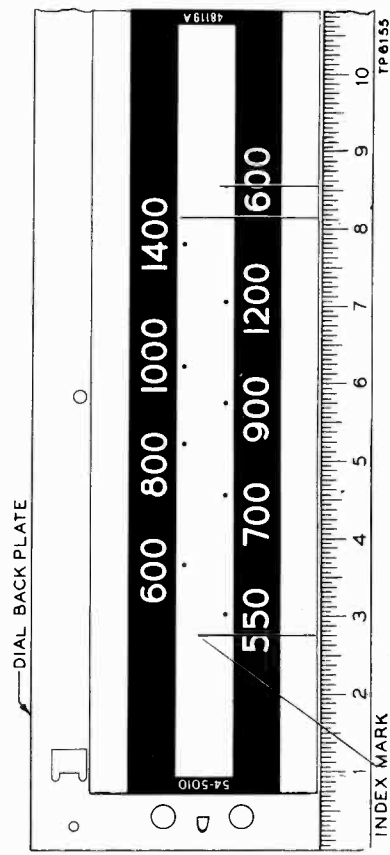

Figure 7. Calibration Measurements for Dial Backplate TP6155
**DIAL**—Calibration and pointer-index measurements are shown in figure 7. With tuning condenser fully meshed, set pointer to index mark.